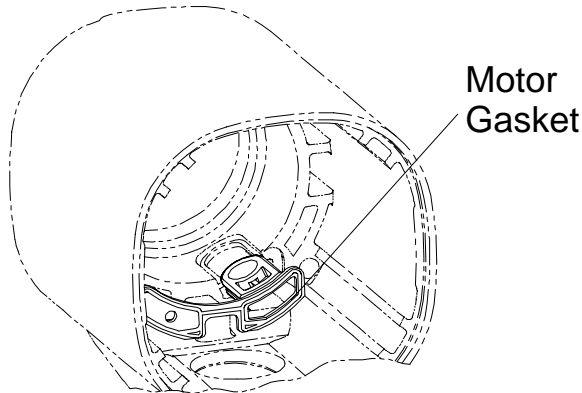

Figure 16
**NOTICE:** When disassembling, assembling or pulling the Motor, we recommend replacement of the Motor Gasket (8).
1. Install the Motor Gasket in the Housing making sure that the grooves in the tab of the Motor Gasket fit around ridge in the Housing. See Figure 16.